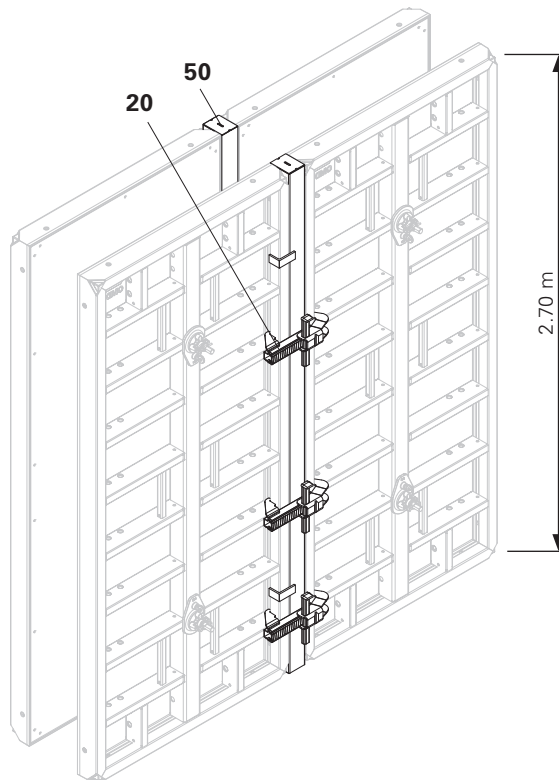

Fig. B5.01
The length is compensated with Wall Thickness Compensator MX or using timber which has been cut to size (50). Note: number and arrangement of the BFD Alignment Couplers (20). (Fig. B5.01)